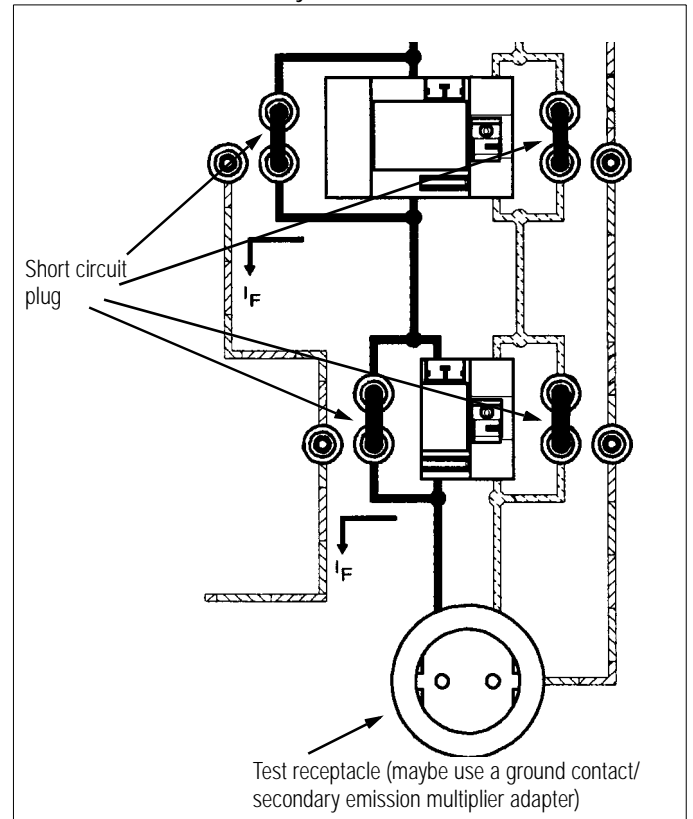

Bild 6.2-1
- ⇨ Switch off both fault current switches and bridge them with the short circuit plugs, see Bild 6.2-1.